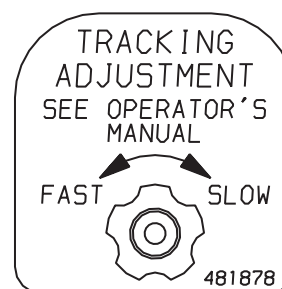

Figure 14. Tracking Adjustment
3. If the machine pulls to one side. Stop the mower by placing the steering control levers in the neutral position. Turn the tracking adjustment knob on the slower side counter clockwise until the machine tracks straight. (See Figure 14)